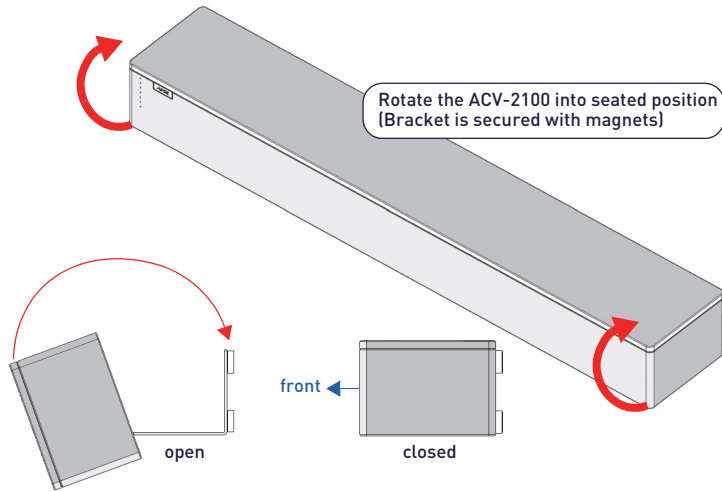

FIG. 6 ROTATING THE ACV-2100 INTO ITS SEATED POSITION
- Use the Wall Mount Bracket as a template to mark the locations for the (4) mounting screws (not included). Use mounting screws and hardware appropriate for the surface being utilized to secure the bracket to the wall. *Optionally, place the four included Wall Mount Spacers between the Bracket/Door and the wall to create a 5mm gap for routing flat cables if not hiding them behind the drywall (see FIG. 6).*
- Rotate the ACV-2100 into seated position. The Wall Mount Bracket is secured with magnets (see FIG. 6).
After connecting all cables, close the Bracket to return the ACV-2100 to its seated position. The Bracket is secured via internal magnets (FIG. 6):